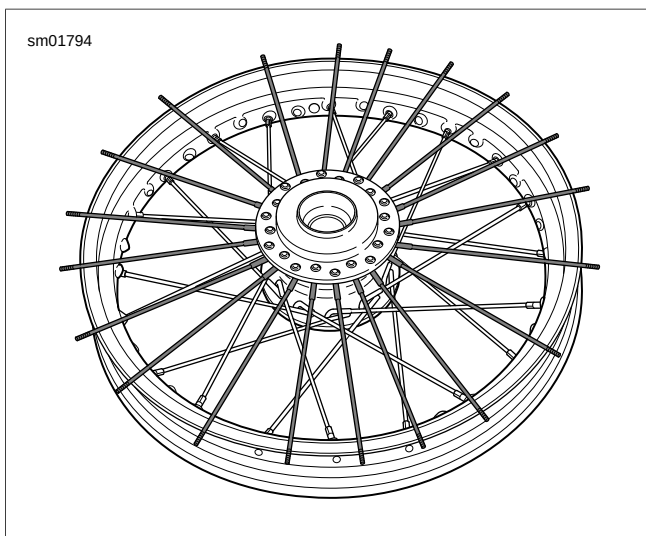

Figure 2-53. Fanning Top Flange Spokes
12. See Figure 2-53. Undo each top bundle and fan the spokes out (in a starburst pattern) around the top rim edge.